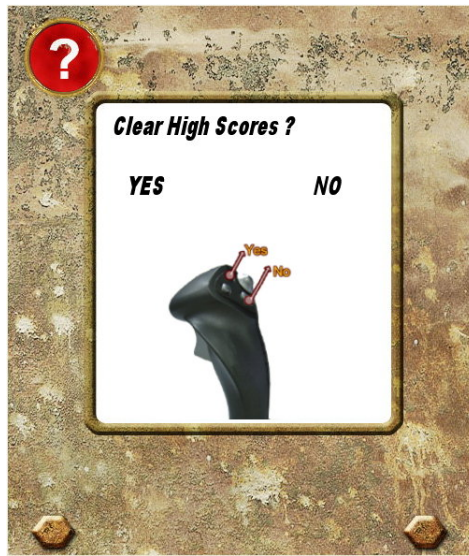

Fig. 4-12 “Clear High Scores” Window
11. **“Clear High Scores”** will erase all high scores and replace with the default settings.(Fig. 4-12)